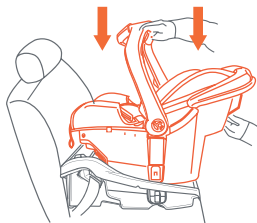
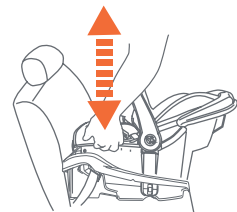

Fig. 49-1
Fig. 49-2
10. If you are using the Base, check that nothing is on top of the base, or anything that will interfere with the proper latching of the Safety Seat to the Base. Place the Safety Seat onto the Base and push down until the Safety Seat latches securely to the Base and you hear a click (Fig. 49-1). **Pull upward on the Safety Seat to check that the Safety Seat is securely latched onto the base (Fig. 49-2).**